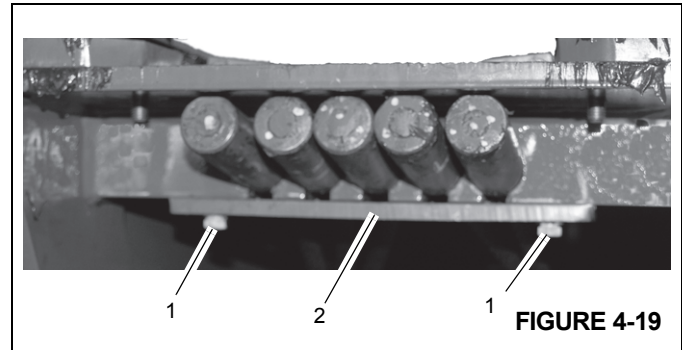

FIGURE 4-19
3. Remove the capscrews and washers (1) securing the extend cable keeper plate (2) to the rear of the fly (Figure 4-19). Remove the keeper plate and remove the five extend cable ends from the slots in the fly.